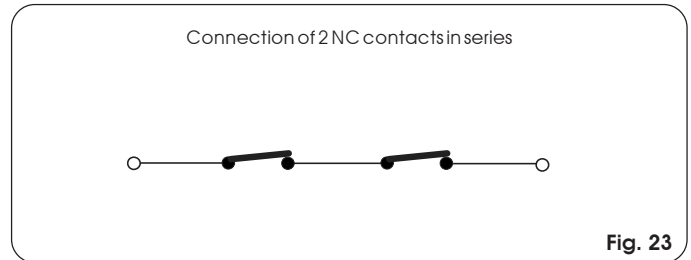

Fig. 23
N.B.: If two devices with N.C. contact have the same function, they must be connected to each other in series (Fig. 23).